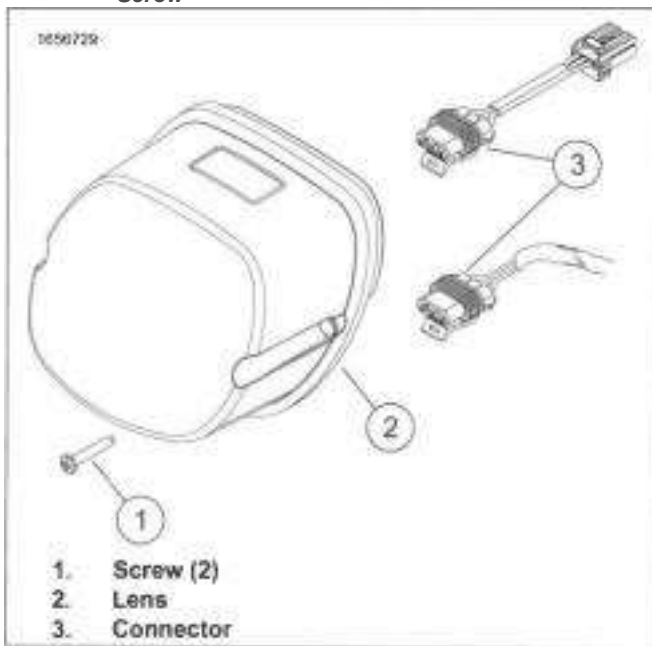
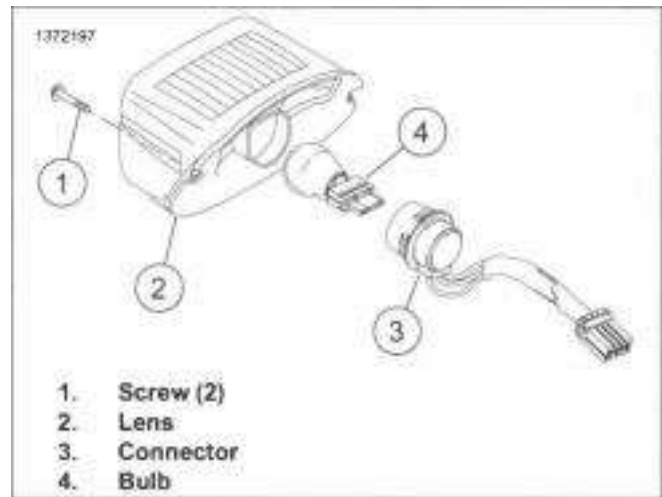

Figure 7-88. Standard LED Tail Lamp
Figure 7-89. Standard Incandescent Tail Lamp
1. See Figure 7-88 and Figure 7-89. Replace tail lamp lighting.
- a. Remove screws (1).
- b. Remove lens (2).
- c. Disconnect connector (3).
- d. Incandescent: Remove bulb (4).
- a. Incandescent: Install bulb (4).
- b. Connect connector (3).
- c. Install lens (2).
- d. Install screws (1). Tighten.